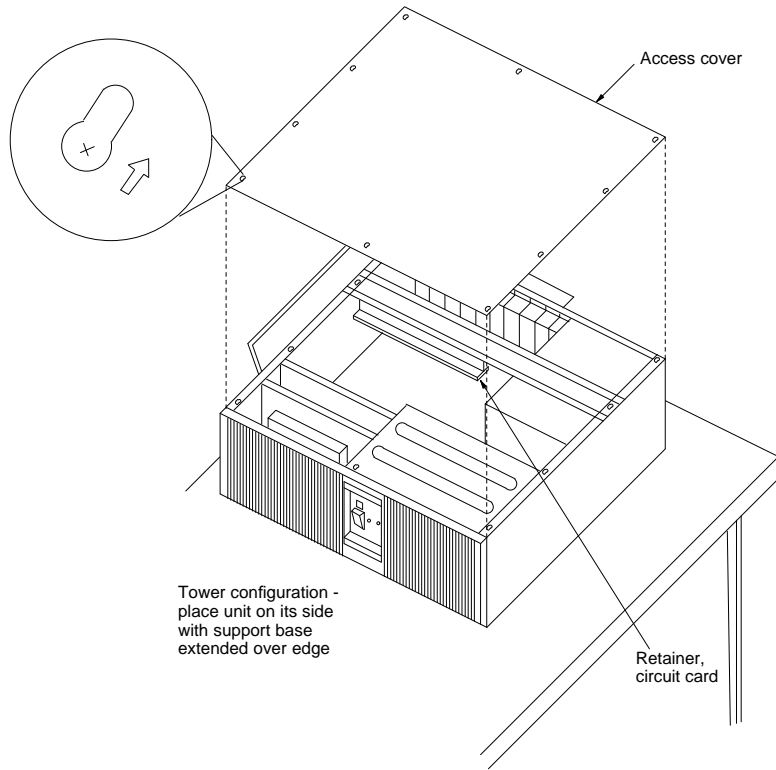
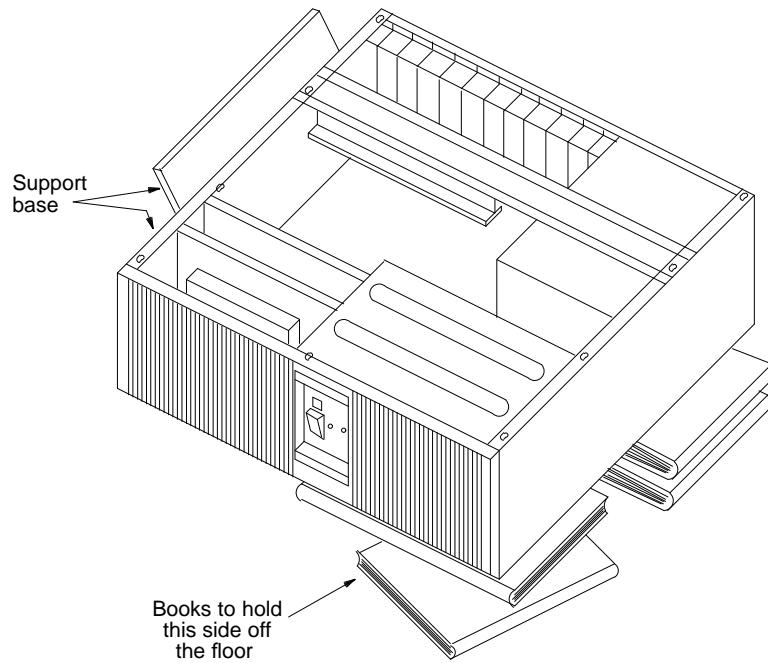
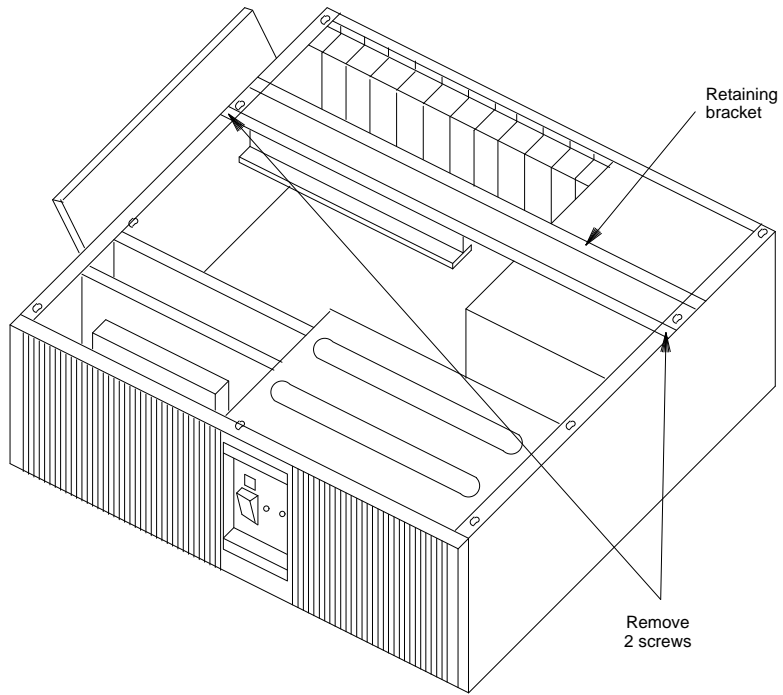

Figure B-5. Removing the Access Cover
Figure B-6. Supporting the MAP/40
Figure B-7. Circuit Card Retaining Bracket
Use the following procedures along with Figure B-5, Figure B-6, and Figure B-7 to remove the circuit card access panel and retaining bracket.
- a. If at all possible, disconnect the incoming lines, and place the MAP/40 on its side on a work table with the support base over the table edge as shown in Figure B-5.
- b. If you cannot disconnect incoming lines to the MAP/40, place the MAP/40 on its side on the floor and rest the end opposite the support base on large telephone books or similar objects as shown in Figure B-6.
6. Some repairs require that the circuit card retaining bracket be removed. To do so, locate and remove two Phillips head screws that fasten the bracket to the chassis, and remove. This bracket is illustrated in Figure B-7.